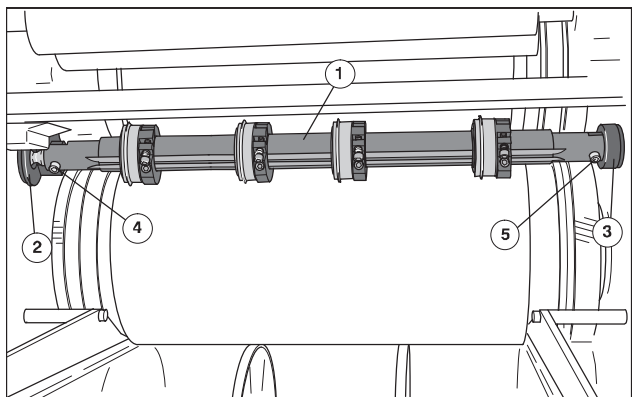

Fig. 7 Installing the perforating device
1. Press the spherical end of the perforating shaft (Fig. 7/1) against a light spring pressure into the bearing bushing on D.S. (Fig. 7/2).
2. Insert the other side of the perforating shaft into the bearing bushing on O.S. (Fig. 7/3). The perforating shaft is pushed into the bearing bushing on O.S. by spring pressure.
3. Using the operator tool screw the perforating shaft into place in the bearing bushing with one Allen screw each on D.S. (Fig. 7/4) and on O.S. (Fig. 7/5).